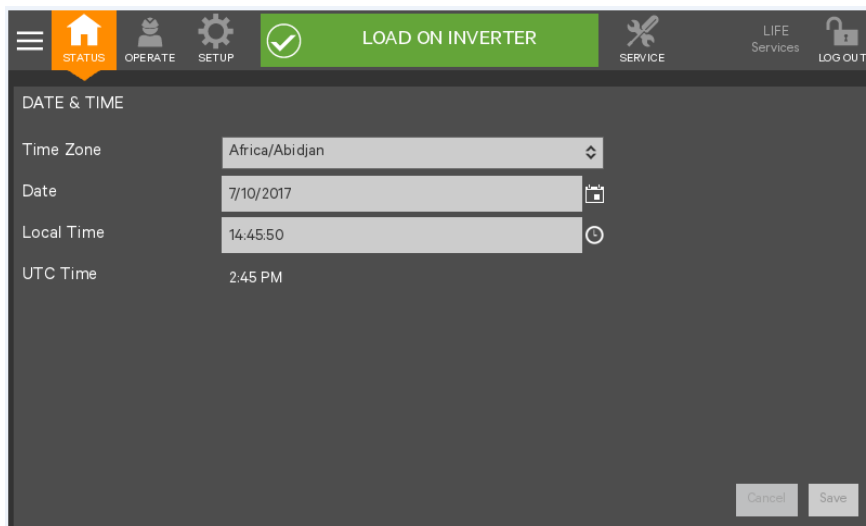

Figure 5-12 Setting date and time
5. Refer to Figure 5-12, set the actual date and time.